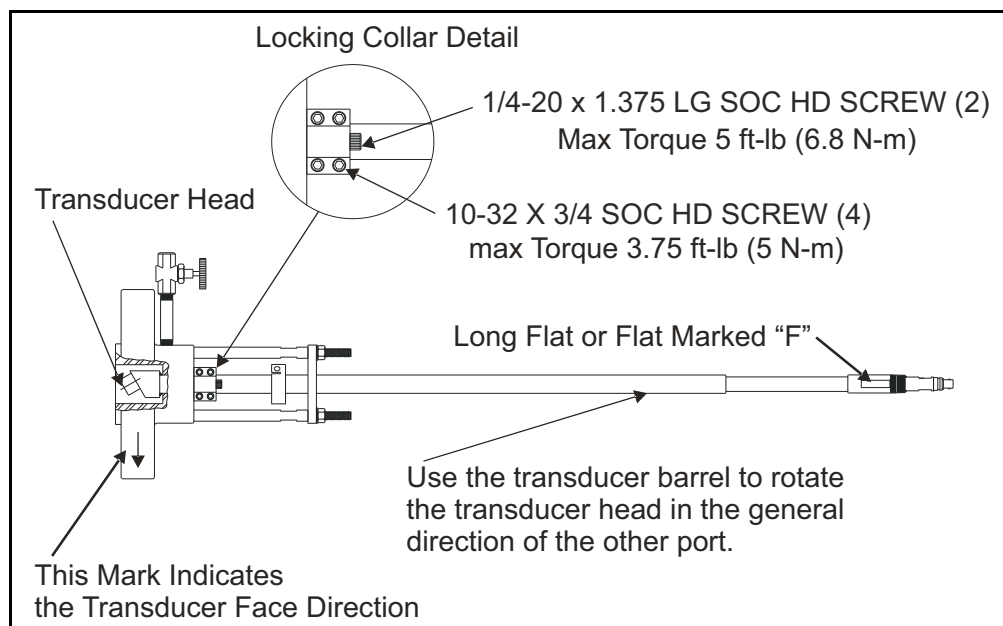

Figure 14: Rotating the Transducer Barrel
3. Rotate the transducer barrel until the transducer face points in the general direction of the other port. Then, tighten the locking collar screws with a torque wrench to fasten the transducer in place. Use the maximum torque shown in *Figure 14* below, but do not overtighten the screws. Alternate the tightening sequence of the six screws to properly “seat” the locking collar.
IMPORTANT: *The long flat or the flat marked “F” is in line with the transducer face (see Figure 14 below). To aid the installation, make a mark on the flange indicating the direction of the transducer face.*